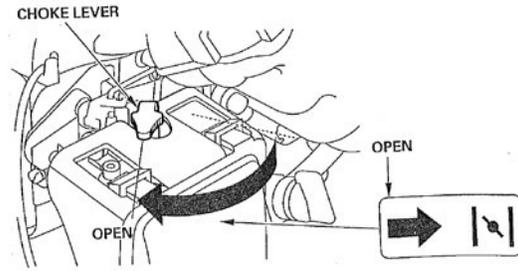

Figure 13
8. Move the choke lever to OPEN position gradually as the engine warms up. (Fig. 13)